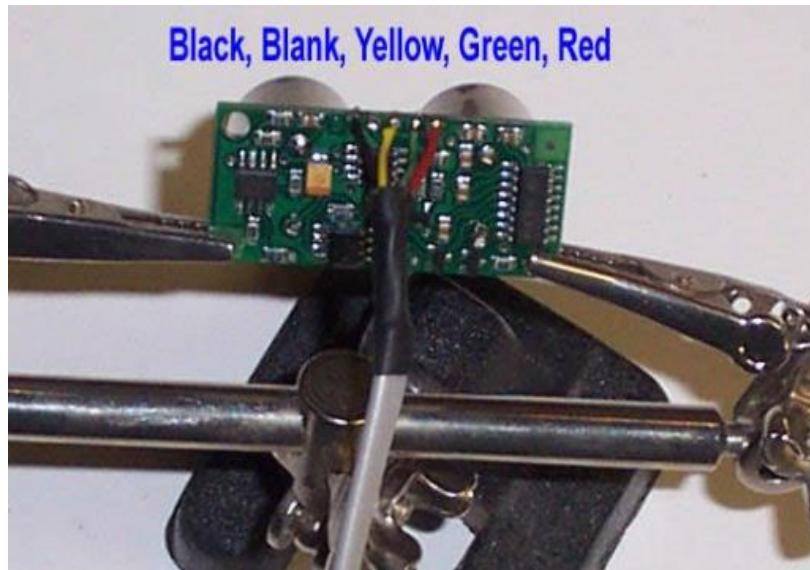

Figure 62: Devantech SRF04 Wire Arrangement
4. Place the wires in the holes as shown in Figure 62 and solder them. The insulation of the wires needs to come up to the board to avoid shorts when assembled with the Trekker.
5. Slide a piece of heat shrink onto the wire and shrink it as shown in Figure 62.